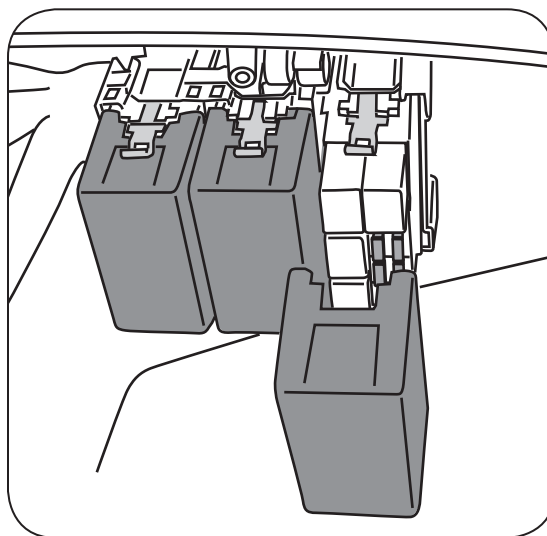

Figure 7
2. Remove fuse holder cover. See Figure 7.